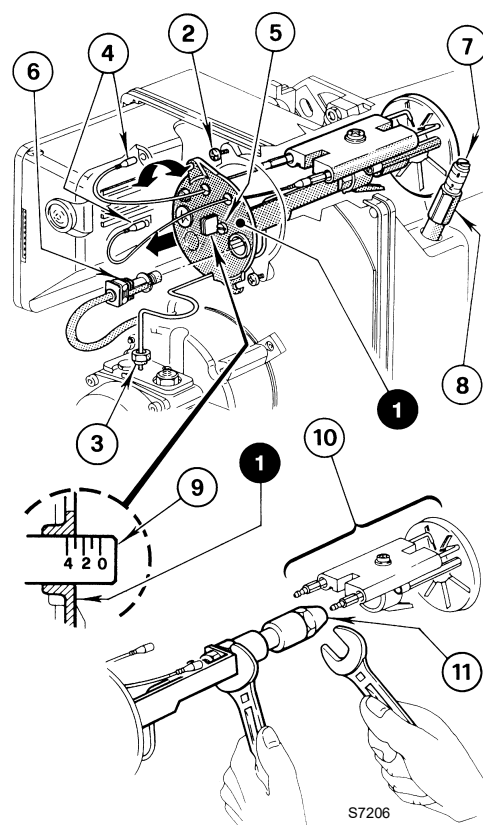
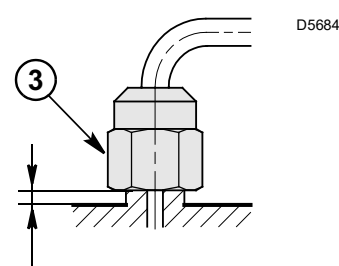

Fig. 13
Fig. 14
- Remove nozzle-holder assembly (1) after loosening screws (2) and nut (3), remove the small cables (4) from the flame control and the flame sensor (6).
- Withdraw the small cables (4) from the electrodes, remove the diffuser disc-holder assembly (10) from the nozzle-holder assembly (1) after loosening screw (3).
- **Screw the nozzle (11) correctly and tighten it as shown in Fig. 13.**
When refitting the nozzle-holder assembly (1, Fig. 13) **screw on nut (3) without tightening it all the way** with a driving torque of 15 Nm, as illustrated in Fig. 14.
Fig. 13, on page 9 illustrates the combustion head adjusted for a delivery of 0.75 GPH at 12 bar. The set-point 3 of the regulating rod (9) is at the same level with the outside plane of the nozzle-holder assembly (1) as shown in Tab. E, on page 8.
- To adjust air damper, proceed as follows: (Fig. 13, on page 9):
- Loosen nut (8) and adjust damper setting with the aid of the screw (7).
- Once you have finished adjusting, screw nut (8) back on.